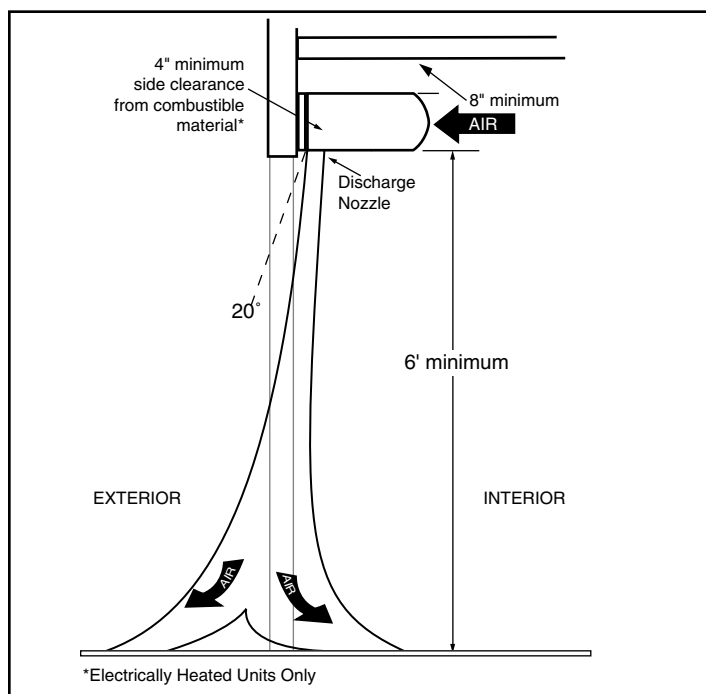

Figure 2
The ARCHITECTURAL HIGH PERFORMANCE 10 Air curtain is designed to be an effective barrier against cold drafts in the winter and hot air in the summer, flying insects and airborne contaminants. To achieve optimum protection, the unit should be mounted on the inside of the building, flush to the wall and as close to the top of the door opening as possible. To ensure peak performance keep air stream free of obstructions. **See Figure 2.**
1. Install the ARCHITECTURAL HIGH PERFORMANCE 10 Air curtain so that nothing interferes with the curtain of air when it is deflected 20° to either side. If the air stream strikes any obstruction, i.e. the top edge of the doorway, a structural beam, a door opening device, etc., its efficiency will be greatly reduced. **See Figure 2.**
- c. Do not install less than six feet (or 1.8 meters) from the floor to the unit. **See Figure 2.**
1. Install the ARCHITECTURAL HIGH PERFORMANCE 10 Air curtain so that nothing interferes with the curtain of air when it is deflected 20° to either side. If the air stream strikes any obstruction, i.e. the top edge of the doorway, a structural beam, a door opening device, etc., its efficiency will be greatly reduced. See Figure 2.